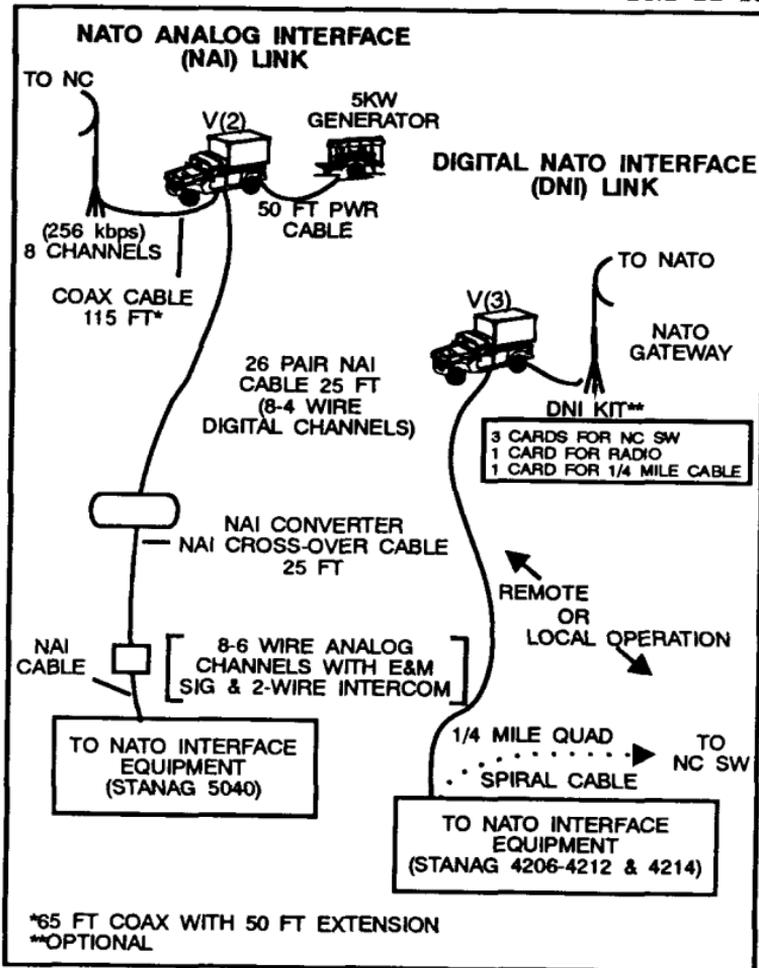

Figure 3-8. Typical LOS(V)2 NATO analog interface link and LOS(V)3 digital NATO interface link.
Configurations. The four LOS AN/TRC-190 versions are: (V)1, (V)2, (V)3, and (V)4. (See Table 3-4.) The LOS(V)1 interfaces with a RAU, SEN, FES, and the air defense artillery (ADA) interface unit. The LOS(V)2 interfaces with the NATO analog interface (NAI) converter. The LOS(V)3 interfaces with the NC switch and can be a radio relay or provide a digital NATO interface (DNI). See Figure 3-8. The LOS(V)4 interfaces with a LEN switch as a radio relay and an ADA interface. The AN/TRC-198(V)1 and (V)2 are used in the airborne/air assault, light signal battalion which uses the more compact MSE system, the CCP.